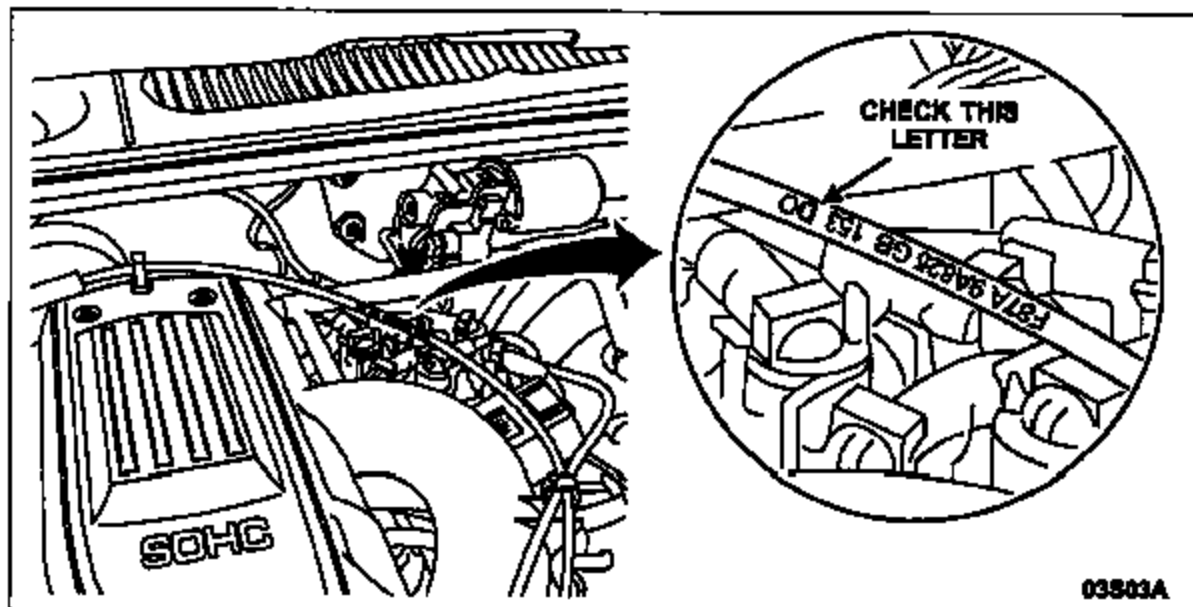

FIGURE 1
1. Locate the speed control cable identification number. Read the second to last letter. See Figure 1.